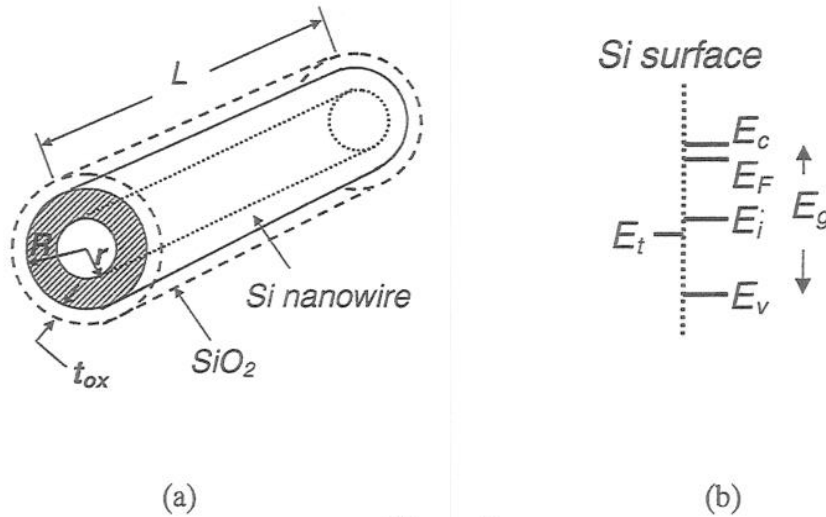

Figure 3
3. A FET is fabricated on a Si nanowire, as shown in Fig. 3(a). The nanowire is a cylinder of radius  $R = 25$  nm, doped  $n$ -type at a density  $N_D = 10^{24} \text{ m}^{-3}$ . The nanowire is surrounded by an oxide shell of thickness  $t_{ox} = 10$  nm. A metal gate (not shown) surrounds the oxide shell completely. Defect states exist on the nanowire surface, with density  $N_S = 10^{16} \text{ m}^{-2}$ , at an energy  $E_t$  lying within the Si band gap  $E_g$  at the surface (Fig. 3(b)). Electrons from the nanowire are trapped in the surface defect states, creating a surface depletion region (shaded region in Fig. 3(a)) and leaving a conducting core of radius ' $r$ '.